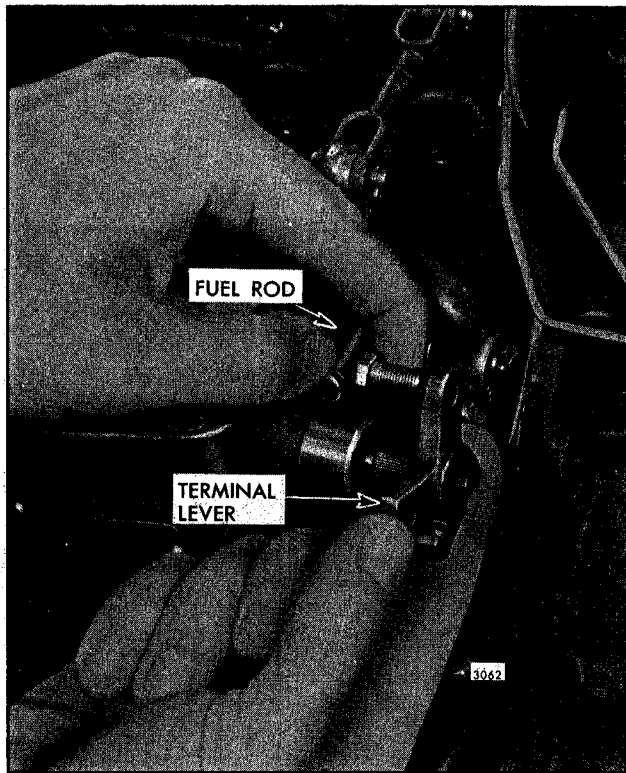

Fig. 3 - Adjusting Length of Fuel Rod
5. Hold the injector rack control tube and the terminal lever in the *full-fuel* position and adjust the length of the fuel rod until the end bearing or ball joint will slide freely into the hole of the terminal lever as shown in Fig. 3. Tighten the lock nut to retain the ball joint or end bearing and the terminal lever clamping bolt securely.